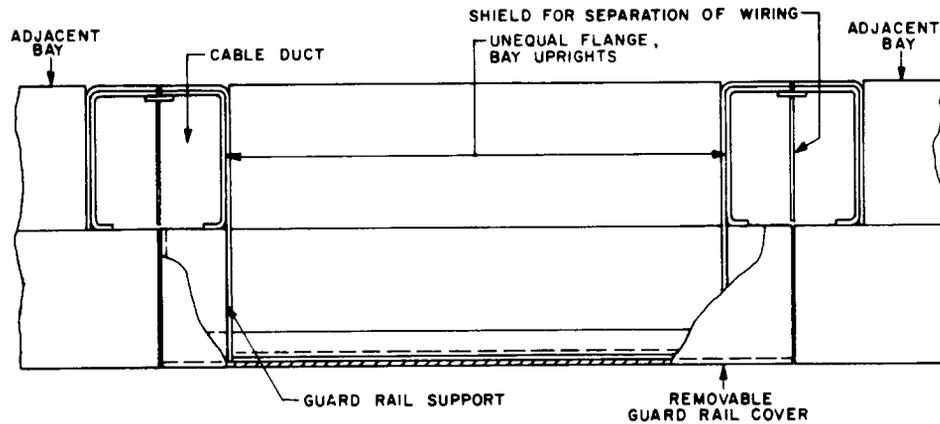

Fig. 3—Single Line-up of Bays
1.04 The cable duct-type bay framework is so designed that the two bay frames are placed adjacent to one another, and joined by appropriate details, a duct is formed at the junction by the bay uprights (Fig. 3). The narrow and wide flanges of the uprights fashion the open and closed sides, respectively, of the ducts formed by the adjacently placed bays. Thus, each bay in a line-up may be provided with a cable duct at the left and another at the right for the segregation of low transmission levels from high transmission levels in conductors. The cable ducts serve as compartments for concealing wiring, which as a result does not have to be sewn.